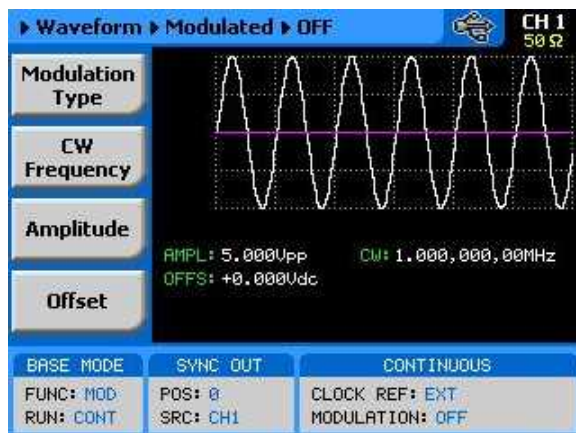

Figure 3-53, Modulation OFF Parameters
The Modulation Off is a special case of the modulation function where the output is not modulated but generates carrier waveform (CW) frequency only. CW is the sine waveform that is being modulated. When placed in Modulation Off, the sine waveform is generated from the main outputs continuously. The advantage of this mode is that sine waveforms can be generated from 100 μ Hz to 100 MHz. Modulation off operates in continuous mode only. The CW parameter does not change when you switch from one modulation function to another. Figure 3-53 shows the Modulation Off menus.